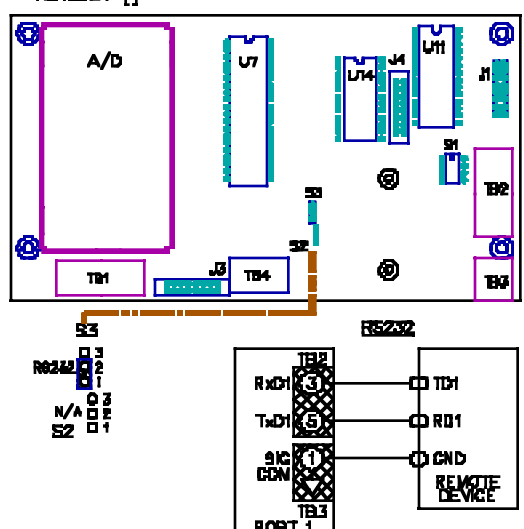
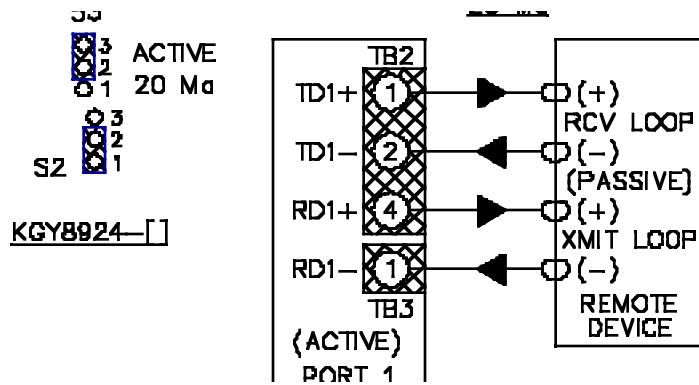
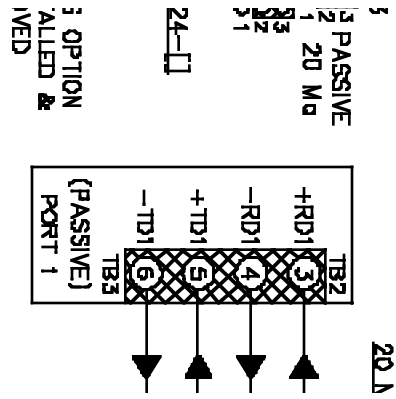

FIGURE 6.1
FIGURE 6.2
FIGURE 6.3
The digital weight indicator is equipped with a Duplex (Bidirectional) Serial Communications Port for information transfer to a computer or other "host" device. The Port is normally configured for RS232C operation (Figure 6.1); 20 mA Loop can be selected (Active - Figure 6.2, or Passive - Figure 6.3). In addition to weight information transmission, remote control of indicator functions ("Gross", "Net", "Tare", "Zero", "Print") can be performed from a remote device.
The normal wiring configuration is RS232C, as shown in Figure 6.1 below. Wiring is done through the Serial Port Opening in the rear of the unit case, to the appropriate terminal on the CPU (see Figure 3.4 for Terminal Strip locations).
The Bidirectional Serial Port #1 may also be operated as an "Active" 20mA Current (I) Loop (Indicator "Active" - Remote Computer or Device "Passive"). Wiring is done per Figure 6.2 below.
If isolation from ground loop problems is desirable, or if reduced power consumption is a consideration, Serial Port #1 may also be wired as a "Passive" 20mA I Loop (Indicator "Passive" - Remote Computer or Device "Active"). Wiring is done as shown in Figure 6.3 below. In addition to Jumper changes, Integrated Circuit U8 ***MUST BE REMOVED*** from the CPU. Integrated Circuit U16 (Part # KFT1918K) must be installed for "Passive" transmission of serial data. ***NOTE THAT IF INTEGRATED CIRCUIT U8 IS LEFT IN PLACE, THE CIRCUITRY MAY BE DAMAGED!***